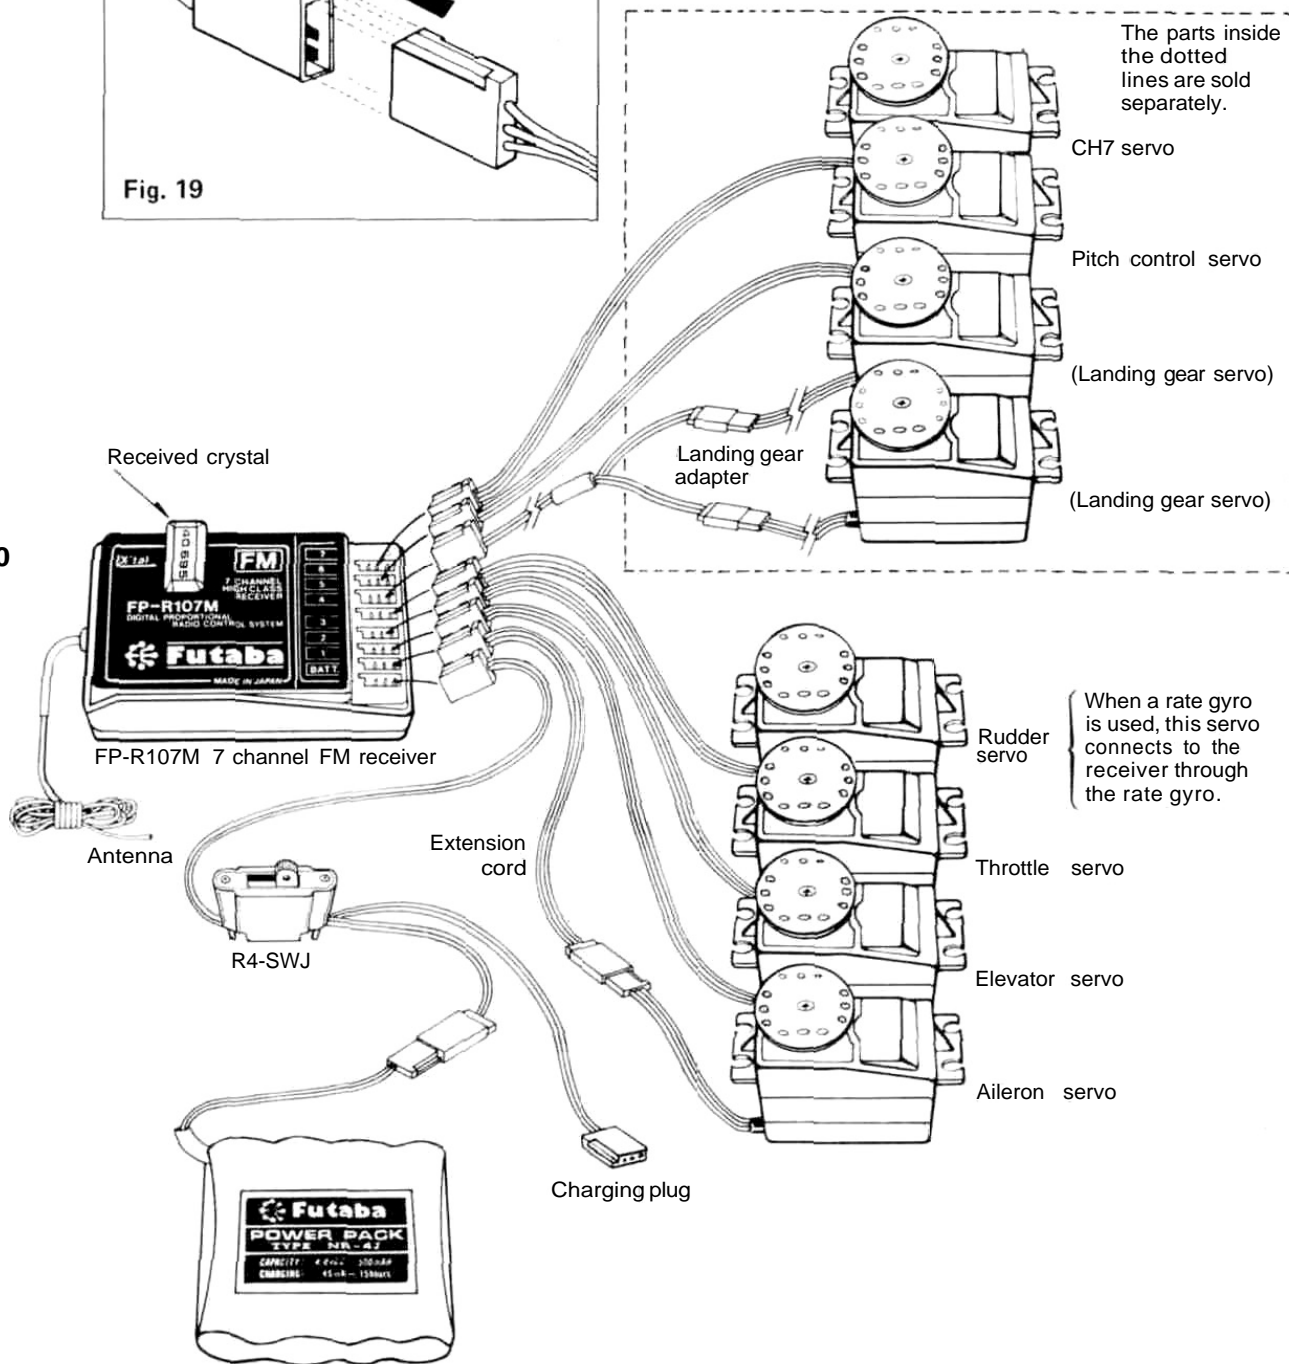

Fig. 20
- Connect the servos and switches firmly as shown in Fig. 20. Then extend the transmitter and receiver antennas fully.